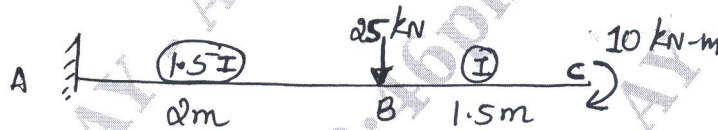

Fig Q2(a)
- 2 a. Determine slope and deflection at free end by moment area method. Ref Fig. Q2(a)